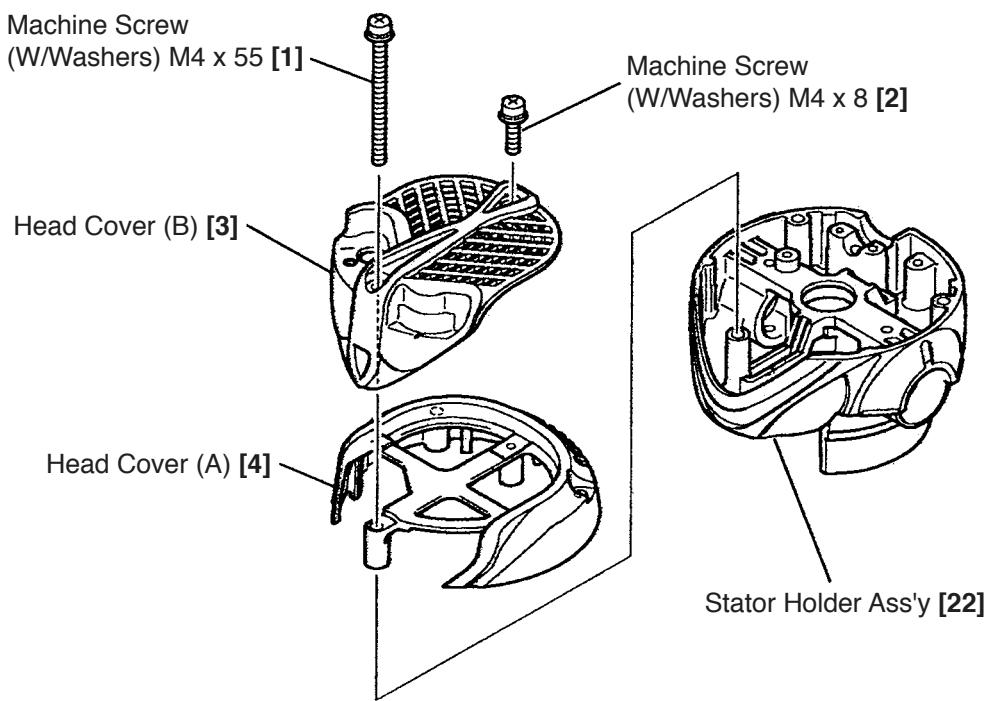

Fig. 5
- (1) First, remove the bit. If further disassembly is attempted with the bit mounted on the router, it may cause damage to the cutting edges of the bit and/or serious injury to the handler.
- (2) Removal of Head Cover (A) [4] and (B) [3] (Fig. 5)